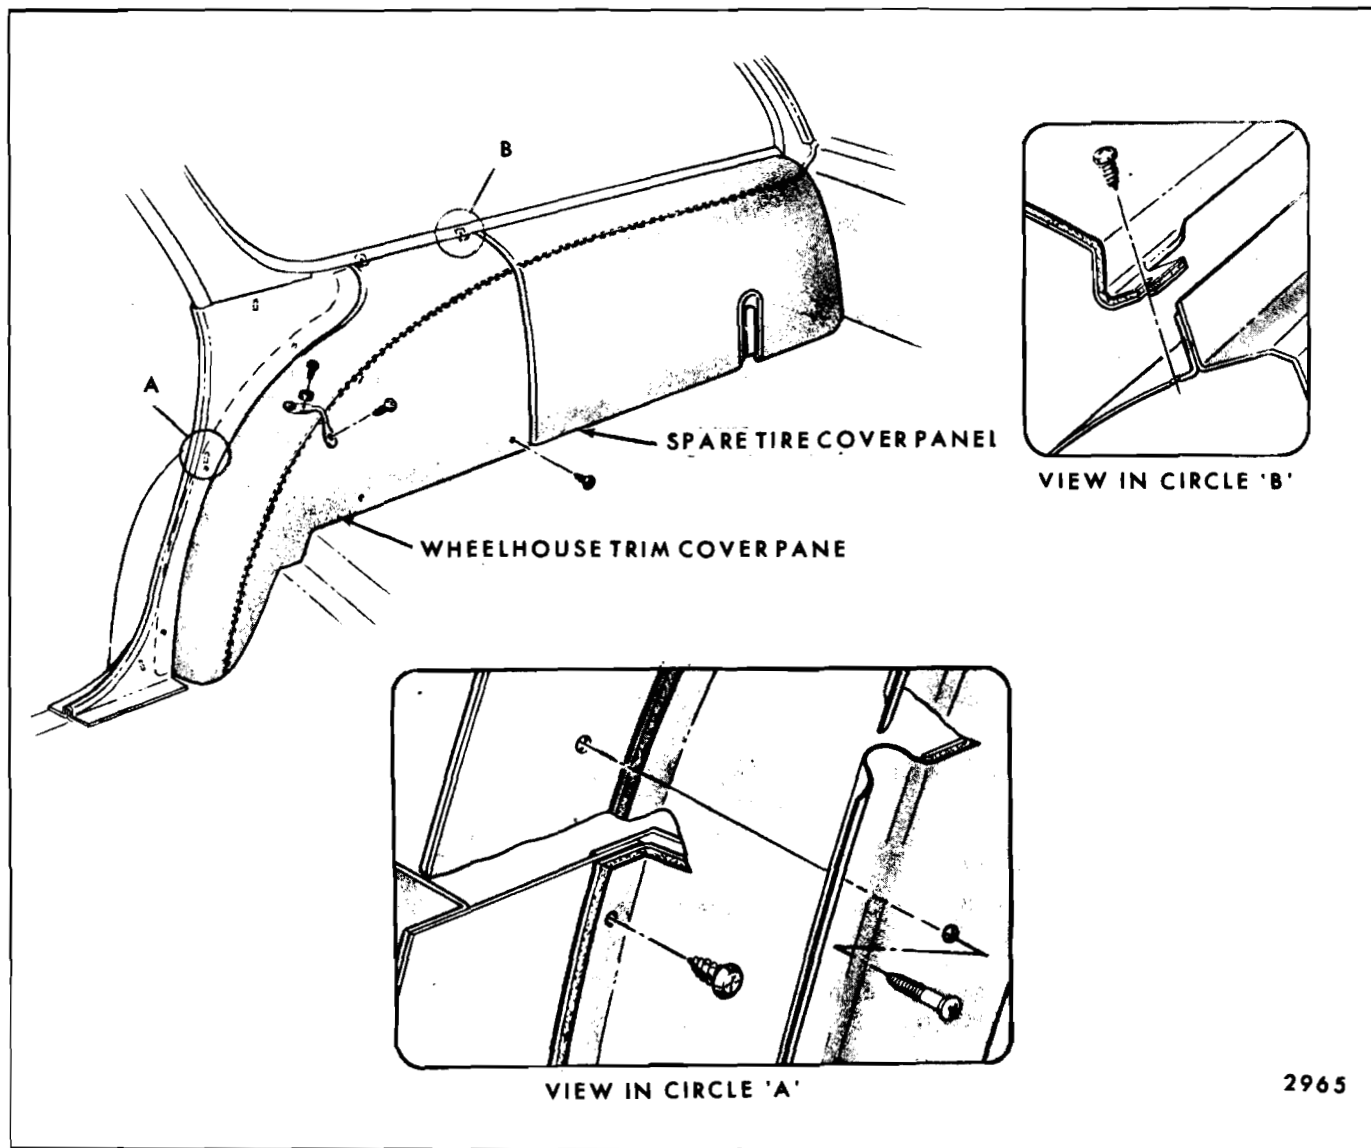

Fig. 14-35—Wheelhouse Cover Panel (Right Side) - "A" Station Wagon
2. Remove second folding seat back lock striker and bumper assembly from wheelhouse (See Fig. 14-35).
3. Remove all trim attaching screws at front, top and bottom of wheelhouse trim panel and remove panel (Fig. 14-35).